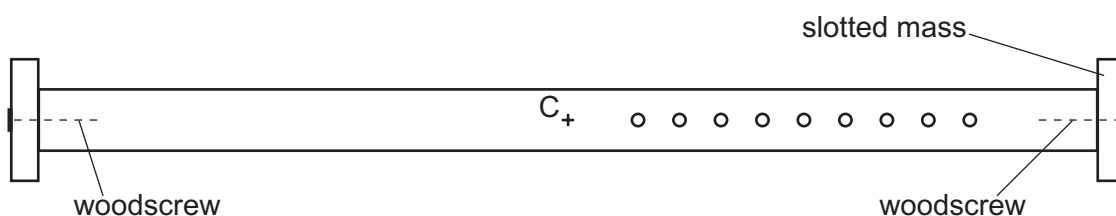

Fig. 1.2
- 2 The masses should be fixed to the ends of the wooden strip using woodscrews, as shown in Fig. 1.2.